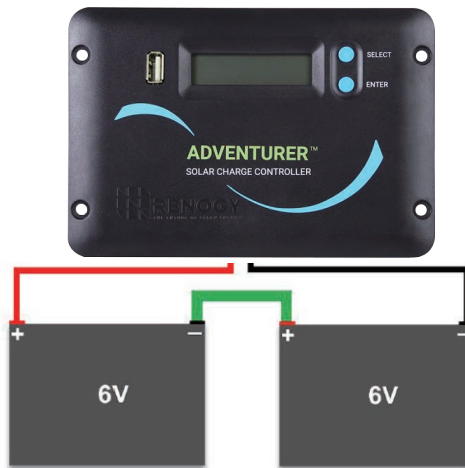

Figure 9.1 Two 6V batteries connected in series
When two or more batteries are connected in a series, their voltages add up, but the Amp-Hour (AH) capacity remains the same. **Fig. 9.1** shows two 6V batteries in series. For example, say each battery has 225 Ah. This wiring will form a 12V battery bank with a capacity of 225 Ah. Notice that the cables connecting the batteries in series are of heavier gauge than the ones coming from the controller. These cables have to be of heavier gauge because when power is drawn from an inverter, it involves large amounts of current. This interconnection cable is often sized according to the power of the inverter.